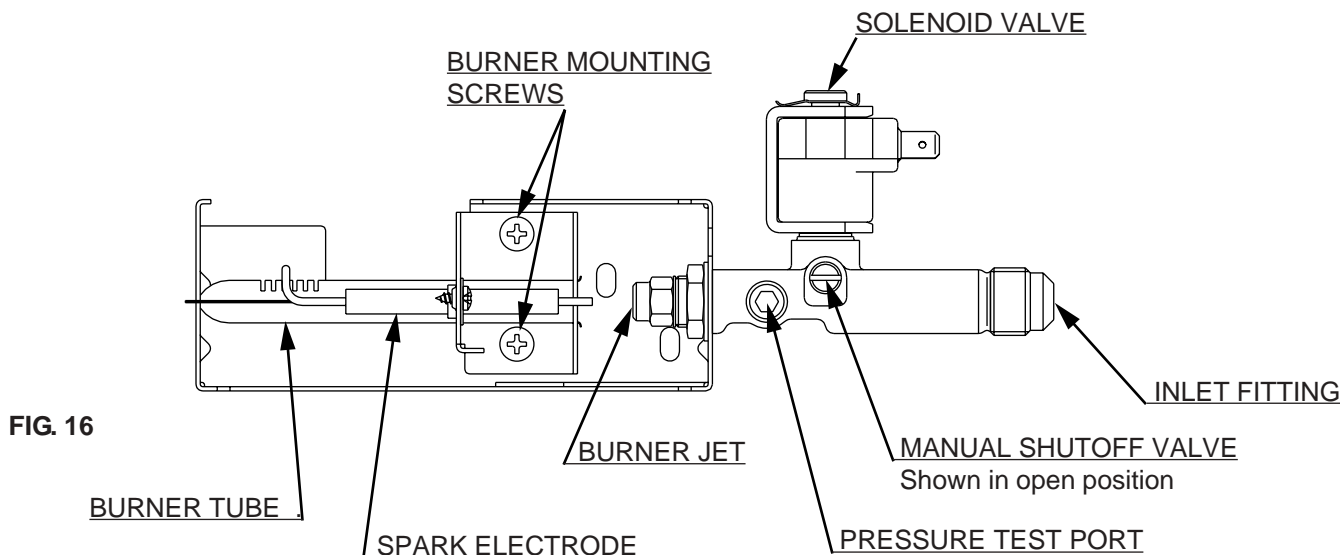

FIG. 16
The correct operating pressure is 11 inches of water column. The correct place to take the LP gas pressure is at the test port just ahead of the burner jet. (See FIG. 16).
5. Remove the burner mounting screws and remove the burner assembly. (See FIG. 16).